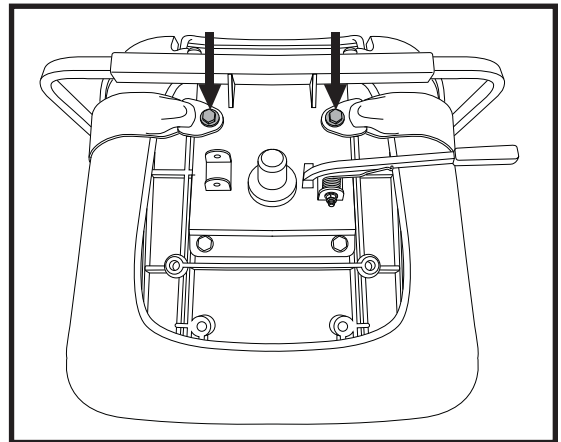

Figure 27. Positioning Belt Bolts
2. Place the seat upside down so that you can see the bottom of the seat base. See figure 27.